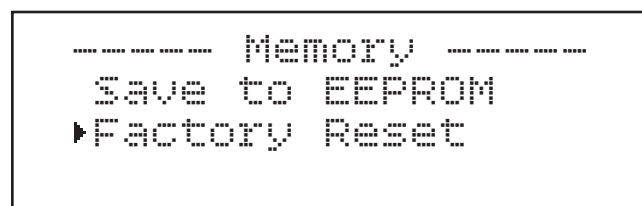

Figure 126. Factory Reset setting.
2. Press spindle speed dial to enter motor parameters submenu, then scroll down to Factory Reset setting (see **Figure 126**).